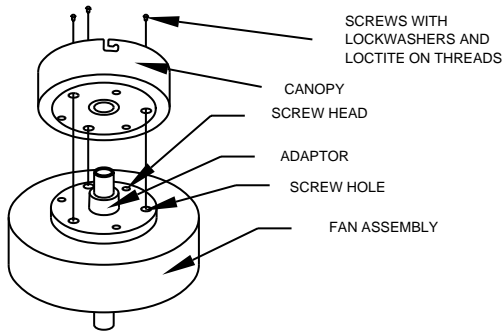

FIGURE 5.
A. THE CANOPY HAS (4) HOLES IN THE BOTTOM. THE LARGE CENTER HOLE FITS OVER THE ADAPTOR ON TOP OF THE FAN. THE (3) REMAINING HOLES ARE FOR THE CANOPY ASSEMBLY SCREWS. PLACE THE CANOPY ON TOP OF THE FAN AND ALIGN THE PROPER HOLES. SEE FIGURE 5. MAKE CERTAIN YOU HAVE LOCATED THE HOLE PATTERN BY CHECKING TO SEE THAT THE CANOPY SITS FLAT ON TOP OF THE FAN WITHOUT A SPACE BETWEEN THE BOTTOM OF THE CANOPY AND THE TOP OF THE FAN. IF A SPACE IS PRESENT, ROTATE THE CANOPY SLIGHTLY, ELIMINATING THE SPACE.
B. NEXT, SECURE THE CANOPY TO THE TOP OF THE FAN USING (3) #10-32 SCREWS WITH LOCKWASHERS PACKAGED WITH THE ADAPTOR KIT. MAKE CERTAIN THE SCREWS ARE TIGHT. FAILURE TO DO SO COULD RESULT IN THE FAN FALLING.